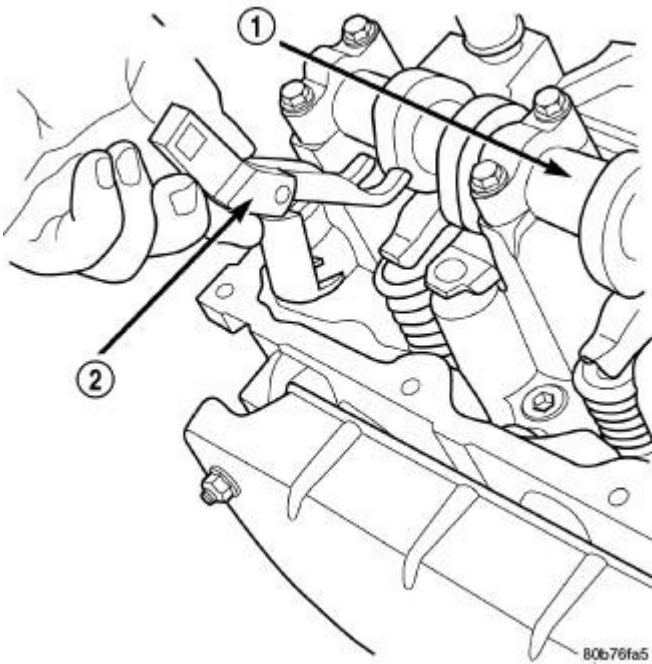

Fig. 68: Rocker Arm - Removal/Installation
5. Using the Rocker Arm Remover/Installer (special tool #8516A, Remover/Installer) (2) press downward on the valve spring, install rocker arm. Refer to **Fig. 68**.